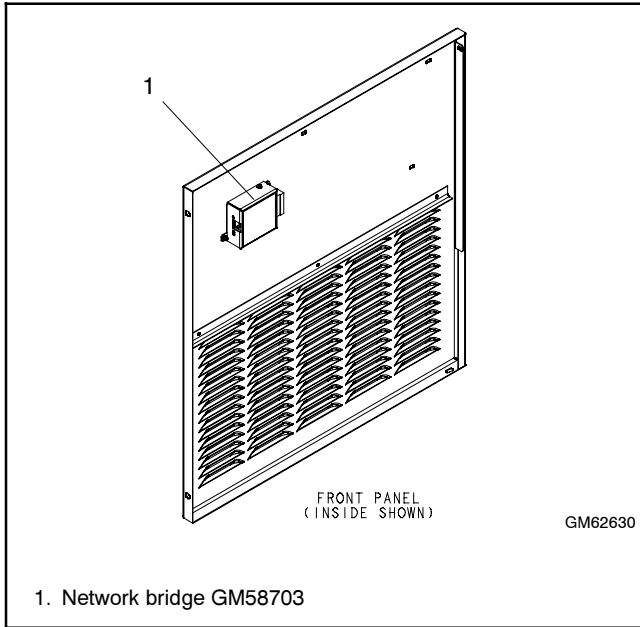
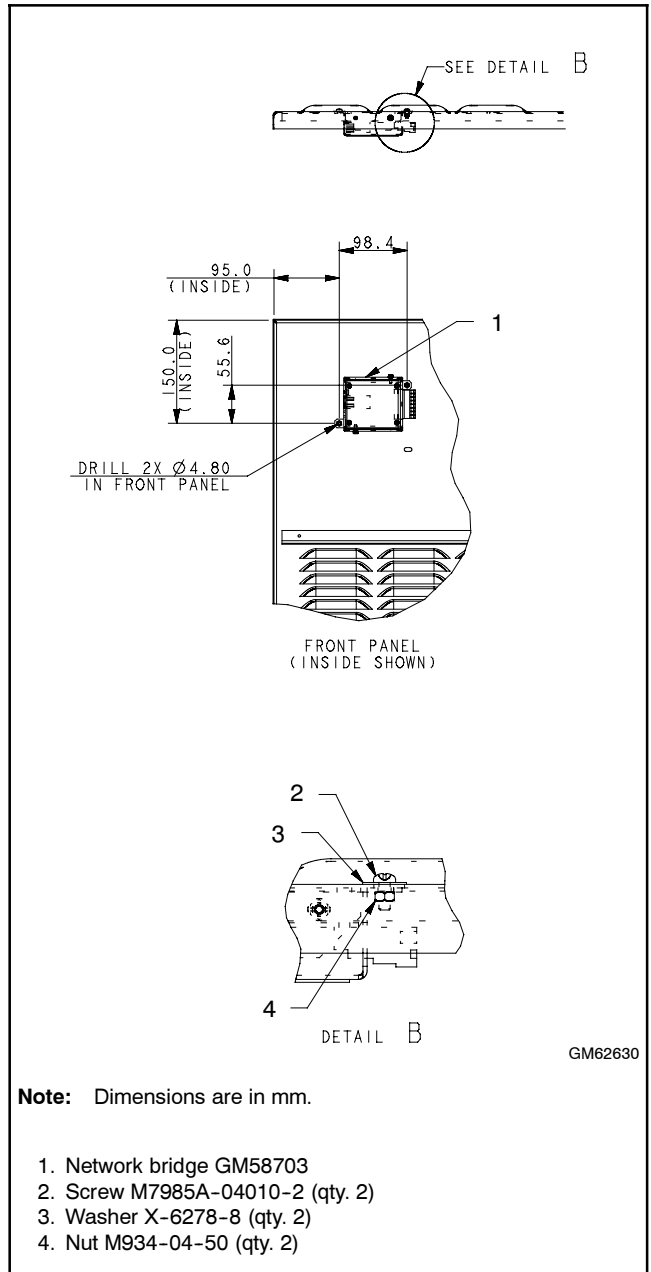

Figure 13 17/18RES Network Bridge Installation
Figure 14 Bridge Mounting
d. Network bridge GM58703 mounts inside the front panel as shown in Figure 13. Drill two 4.8 mm (3/16 in.) mounting holes in the front panel at the locations shown in Figure 14.
e. Use two screws M7985A-04010-20, washers X-6278-8, and nuts M934-04-50 to mount network bridge GM58703 on the inside of the front panel as shown in Figure 14.